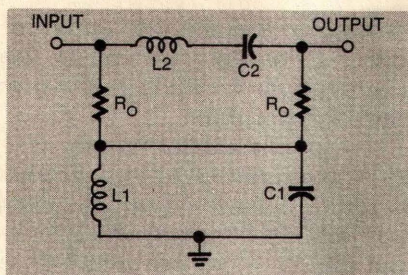

Fig. 10. Here's a practical bandpass diplexer design intended for use with mixers. Values are calculated using the equations in the text.
Diplexer Design. Figure 10 shows a practical bandpass diplexer design intended for use with mixers. The values of the R_0 resistors is the system design impedance (50 ohms in most cases). The values of $L1$, $L2$, $C1$, and $C2$ are determined by the center frequency (f_0) of the desired pass band. The Q of the filter is f_0 divided by the necessary bandwidth (BW). The values of these components for